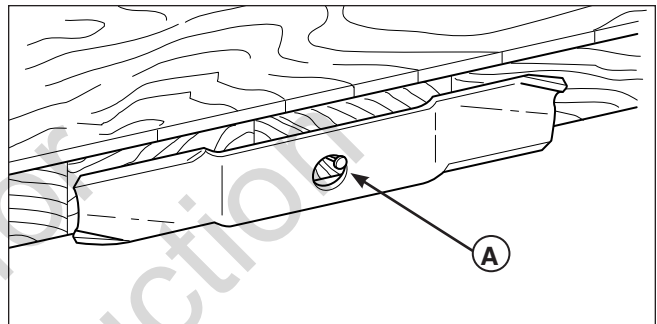

Figure 27. Balancing The Blade
4. Balance the blade as shown in Figure 27. Center the blade's hole on a nail lubricated with a drop of oil. A balanced blade will remain level.